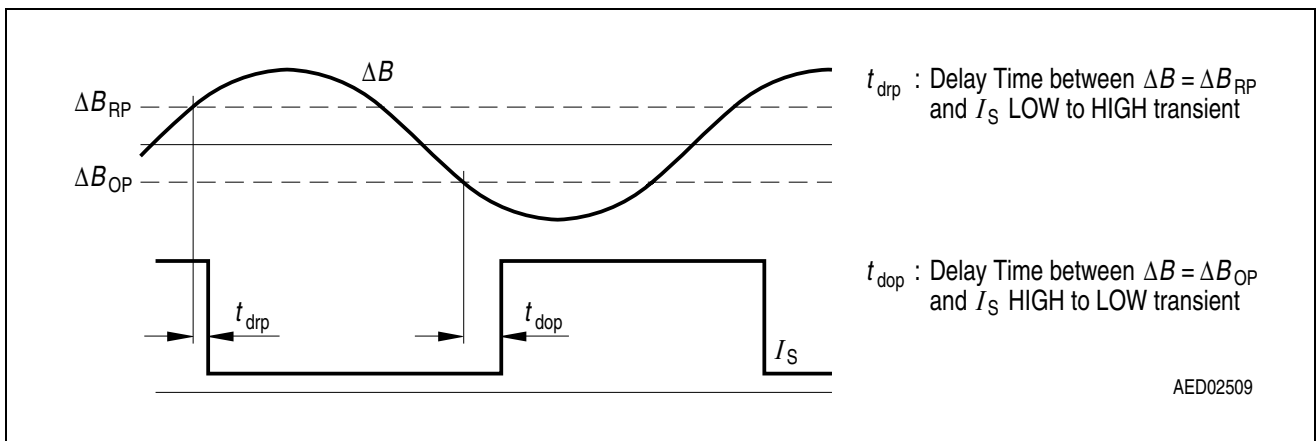

Figure 6 Definition of Delay Times (switching points related to initial measurement @ $\Delta B = 2 \text{ mT}$; $f = 200 \text{ Hz}$)
4) For definition see Figure 6.